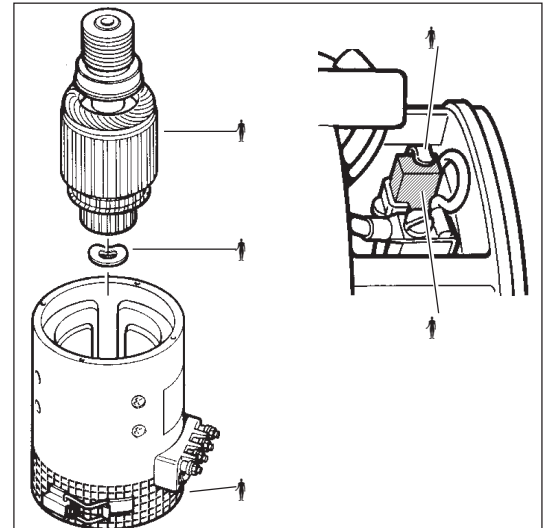

Fig. IV2-2c
- e) Before inserting armature (item 1), check whether corrugated washer (item 2) is lying in bearing seat of B end plate. Carefully guide armature into motor housing and insert into end plate. Fig. IV2-2c
- f) Push carbon brushes (item 3) against commutator. Make sure that pressure springs (item 4) are positioned on carbon brushes.
- g) Mount protective screen (item 5).